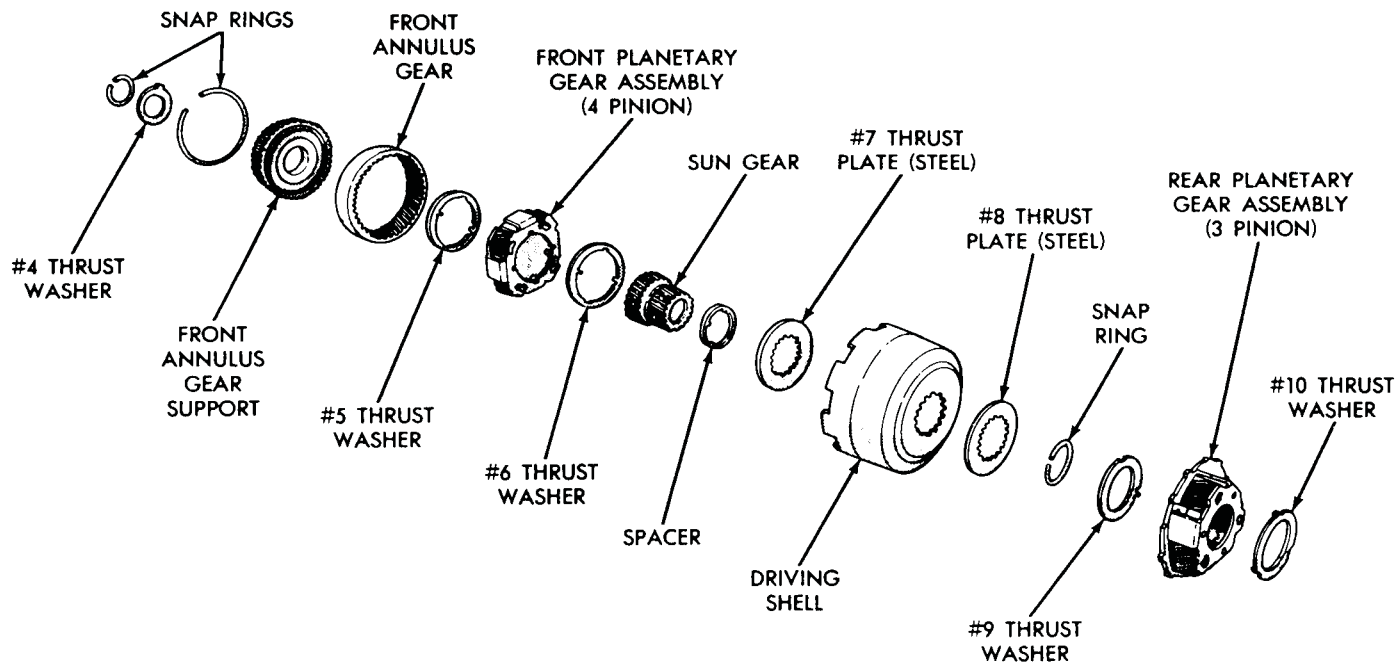

Fig. 21—Planetary Gear Train
Disassembly (Fig. 21)
(3) Remove snap ring and #4 thrust washer from forward hub of front planetary gear assembly, slide front annulus gear and support off planetary gear assembly. Remove #5 thrust washer from front side of planetary gear assembly. Remove #6 thrust washer from rear side of planetary gear assembly. If necessary, remove snap ring from front of annulus gear to separate support from annulus gear.
(4) Slide sun gear, driving shell, and rear planetary assembly off the output shaft.
(5) Lift sun gear and driving shell off rear planetary assembly. Remove snap ring and #8 thrust plate from sun gear (rear side of driving shell). Slide sun gear out of driving shell, and remove spacer (Fig. 21), and #7 thrust plate from opposite end of sun gear, if necessary.
(6) Remove #9 thrust washer from forward side of rear planetary assembly and remove planetary gear assembly from rear annulus gear. Remove #10 thrust washer from rear side of planetary assembly. If necessary, remove snap ring from rear of annulus gear to separate support from annulus gear.
Refer to Figure 21 for parts reference.
(4) Install #7 thrust plate and spacer on wide-ratio transmissions (Fig. 21) on one end of sun gear. Insert sun gear through front side of driving shell, install #8 thrust plate and snap ring.
(5) Carefully slide driving shell and sun gear assembly on the output shaft, engaging sun gear teeth with rear planetary pinion teeth.
(6) Place front annulus gear support in the annulus gear and install snap ring.
(7) Position #5 thrust washer on front side of front planetary gear assembly. Position front planetary gear assembly in front annulus gear, place #4 thrust washer over planetary gear assembly hub and install snap ring. Position #6 thrust washer on rear side of planetary gear assembly.
(8) Carefully work front planetary and annulus gear assembly on output shaft, meshing planetary pinions with sun gear teeth.
(9) With all components properly positioned, install selective snap ring on front end of output shaft. Remeasure end play of the assembly. **The clearance can be adjusted by the use of various thickness snap rings. Snap rings are available in .042, .064, and .084 inch thickness.**